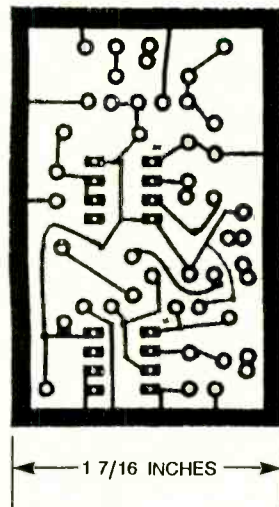

Fig. 3. Although the circuit could have been hard-wired on a perfboard, the author chose to assemble his unit on a printed-circuit board.
Although the circuit is not critical and can be hard wired on a perfboard if desired, a full-size layout of the unit's printed-circuit board is shown in Fig. 3. That template can be used to etch your own printed-circuit board, or one can be obtained from the source given in the Parts List.
**Preliminary Test.** Before installing the A/C Monitor in your vehicle, it should be checked for proper operation. That's easily accomplished using any well-filtered, 12-volt DC supply, or a 12-volt battery, as the power source, and a DC voltmeter. Refer to Fig. 3 for the external connections to the circuit board. Sensor U2 should be prewired to the circuit board for the test, and the two LED's should be connected to the circuit to verify proper operation. The cathode of each LED may be temporarily soldered to circuit ground.